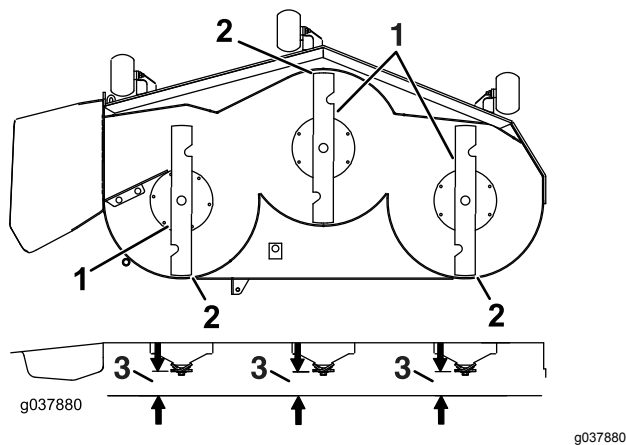

Figure 120
7. Check the front-to-rear blade level (Figure 120). Ensure the front blade tip is lower than the rear blade tip as shown in the block height and rake table. If adjustment is needed, continue with this procedure.